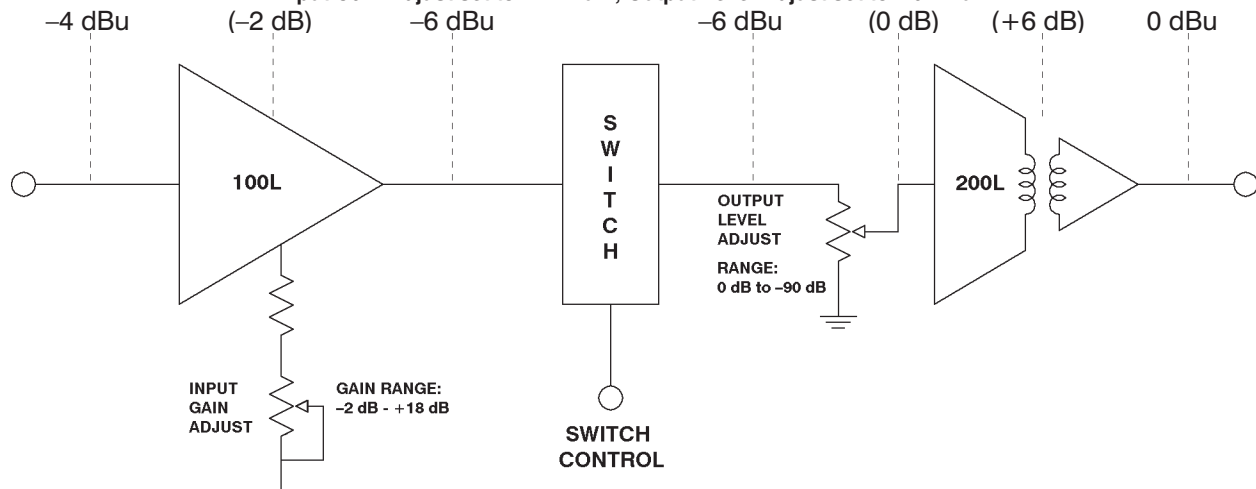

Figure 2 - Gain Structure
1. Locate a proper slot in the mainframe. Mainframe slots are set up on the rear panel of the mother board according to the card type to be used. Slots are dedicated by installing the proper trimpots. Trimpots **MUST** be installed as indicated in Figure 2 and 3 for inputs and outputs to function. Microphone level inputs require 200 Ω trimpots. All others require 10 k Ω trimpots. Slots labels are applied at the factory above each slot position. Single input cards such as the 5101S, 5101S-8, and the 5151S are labeled 'SPECIAL', as are any specially made cards. With the exception of the SPECIALs, cards may be inserted in any slot with a matching label.
The gain structure diagrams in Figures 2 - 3 show the signal levels and gains or losses at key points in the cards. Since all outputs on a card behave identically, only one output is